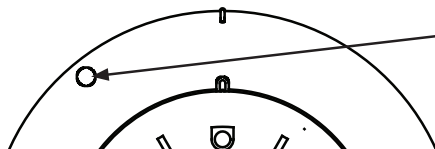

Figure 5: Removing Base Cover from Lower Enclosure
3. To remove the base cover from the lower enclosure once the locking feature has been activated, insert a small screwdriver into the slot on the on the base to push the plastic tab while simultaneously turning the detector head counter-clockwise (refer to Figure 5).